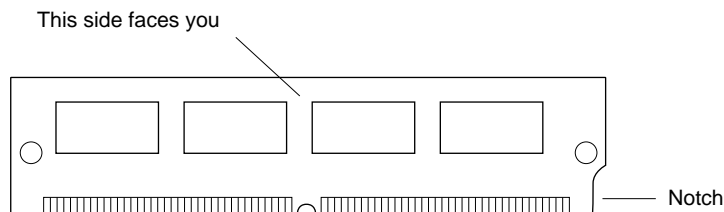

Figure 3-3 Orienting the SIMM
- Using both hands, grasp the top of the SIMM so the notch in the bottom corner of the SIMM is on your right, as shown in Figure 3-3.